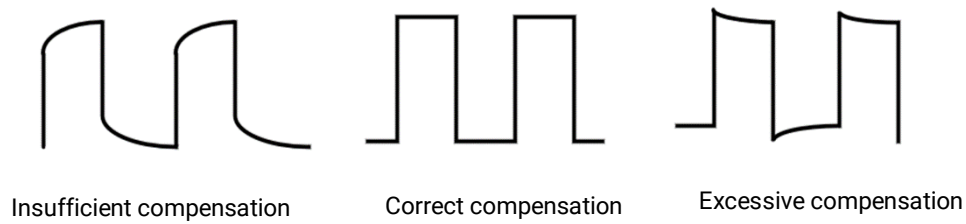

Figure 1-10
2) The captured waveform on the oscilloscope is shown in Figure 1-10. If the waveform is found to be improperly compensated, you can use the non-metallic adjustment tool to adjust the probe's variable capacitance. Make adjustments until the waveform matches the correctly compensated waveform in the center.